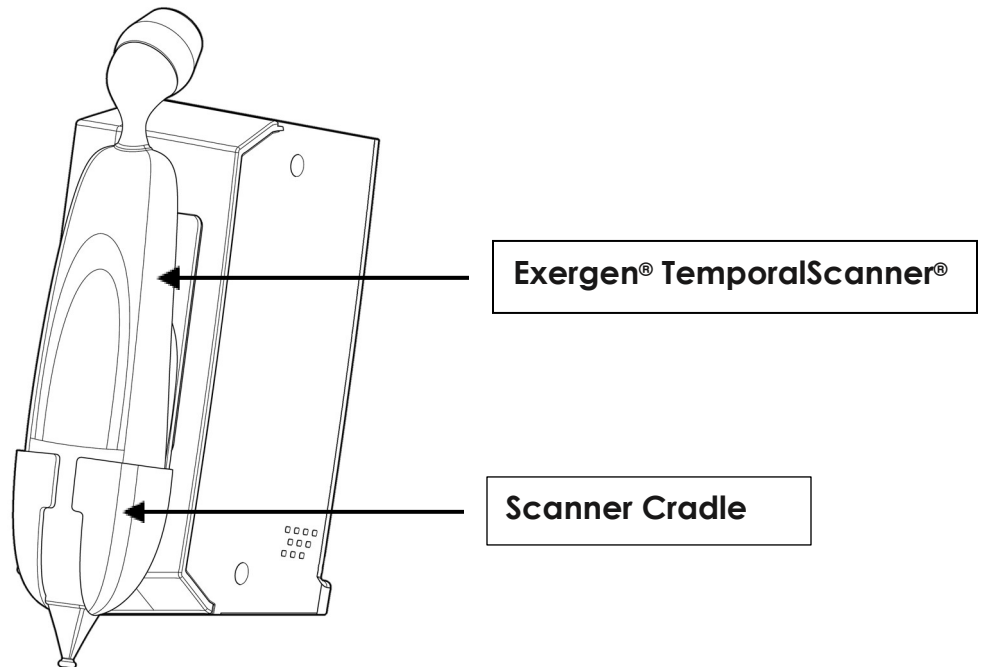

Figure 1 – Right View
1. Place the Exergen® TemporalScanner® in the cradle on the right (see **Figure 1**).